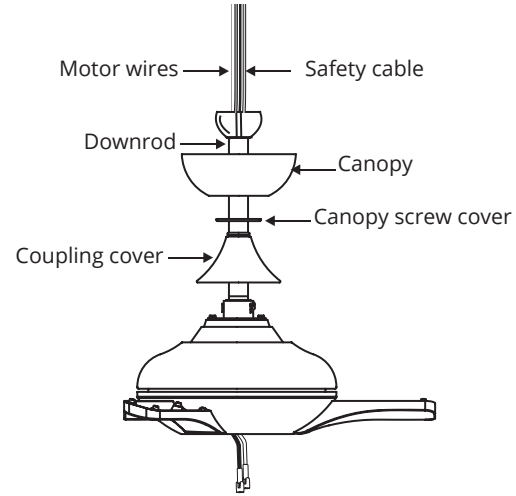

FIGURE 10
1. Slip the coupling cover, canopy screw cover (painted side face down), and canopy (opened side up) onto the downrod. (Fig. 10). Coupling cover goes all the way to the bottom.
2. Carefully reinstall the hanger ball onto the downrod, being sure that the cross pin is in the correct position, the screw is tightened and wires are not twisted. (Fig. 10)